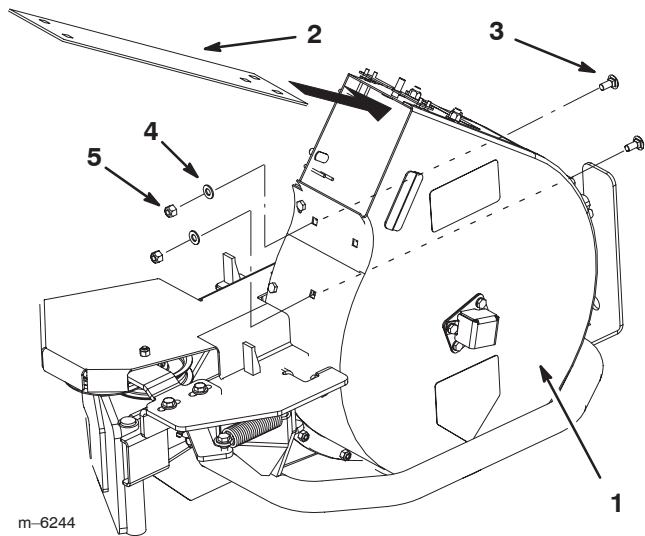

Figure 29
4. Remove the five bolts that hold the blower liner to the blower (Figures 29 and 30).
5. Pull the liner out of the blower (Fig. 29).
- 8. Install 3 bolts into the rear of the blower and the liner (Fig. 29).